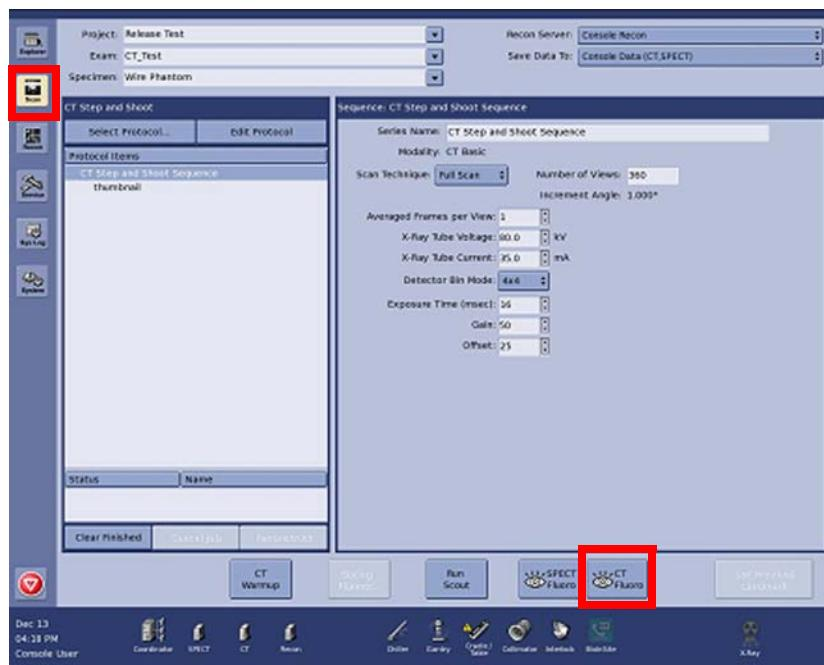

Figure 4-29
17. Click on the Scan icon on the left side of the screen. (Figure 4-29)